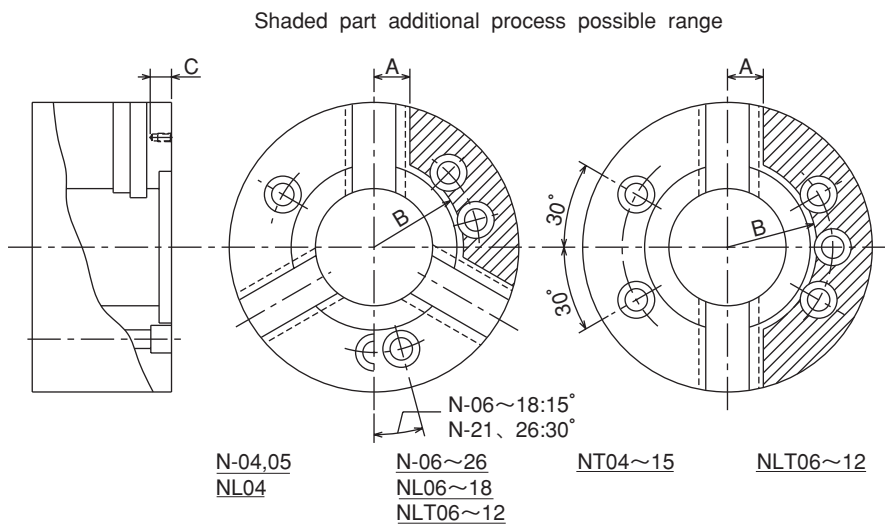

Fig.18
- In the case of attaching the locator and the jig on the chuck body surface, tap or drill a hole in the additional process range specified in Fig. 18.